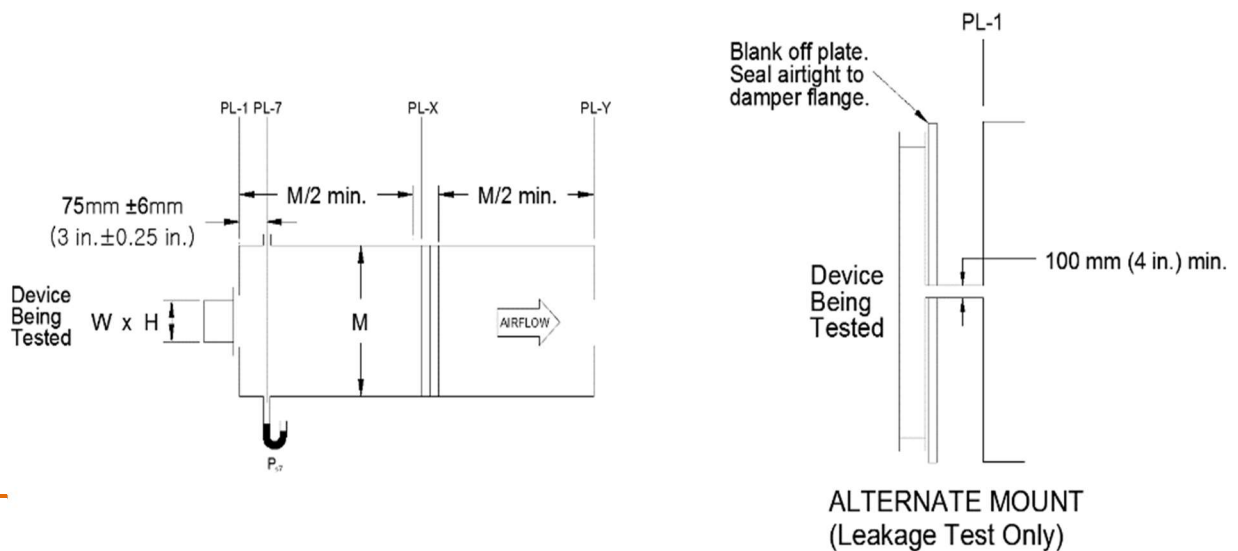

Figure 5.4 - Test Damper Setup with Outlet Chamber
- Tested for air leakage in accordance with ANSI/AMCA Standard 500-D, Figure 5.4, And Figure 5.6A